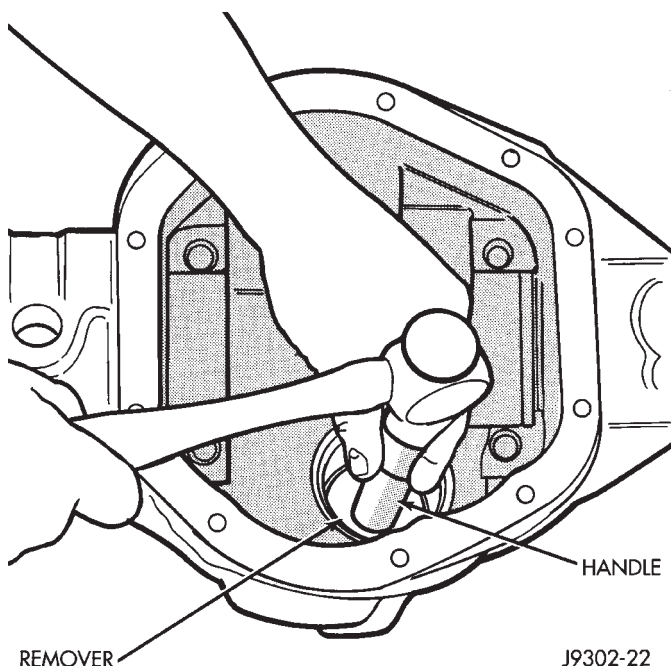

Fig. 43 Front Bearing Cup Removal
- (7) Remove the front pinion bearing cup, bearing, oil slinger, if equipped, and pinion seal with Remover C-4345 and Handle C-4171 (Fig. 43).